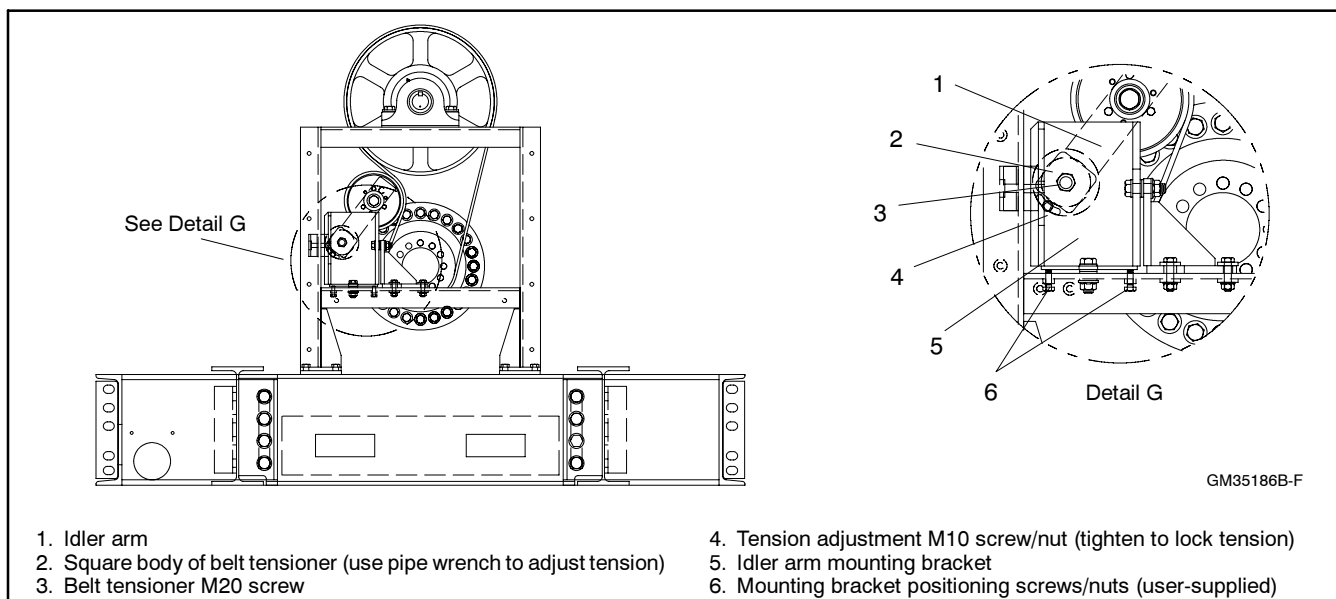

Figure 7 Belt Tension Adjustment
4.2 Loosen the belt tensioner M20 screw and tension adjustment M10 screw/nut to remove the tension on the idler arm if not already done. See Figure 7.
4.13 Remove the user-supplied positioning screws and nuts installed in the bottom of the mounting bracket. See Figure 7.